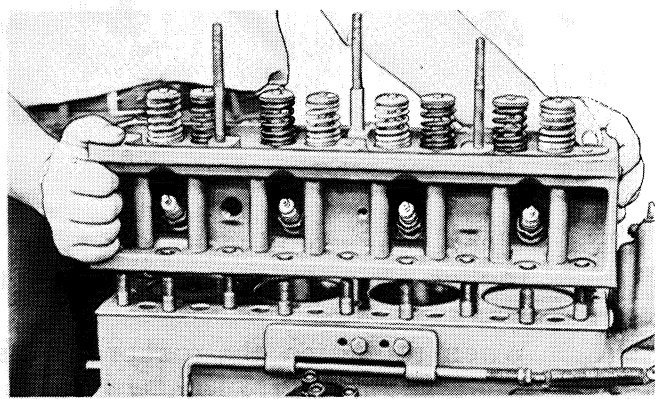

Figure 11 - Removing Cylinder Head
5. Tap edges of head with a lead or rawhide mallet and lift from engine as shown in Figure 11. Do not attempt to pry head from the block as damage to the machined surfaces will result.